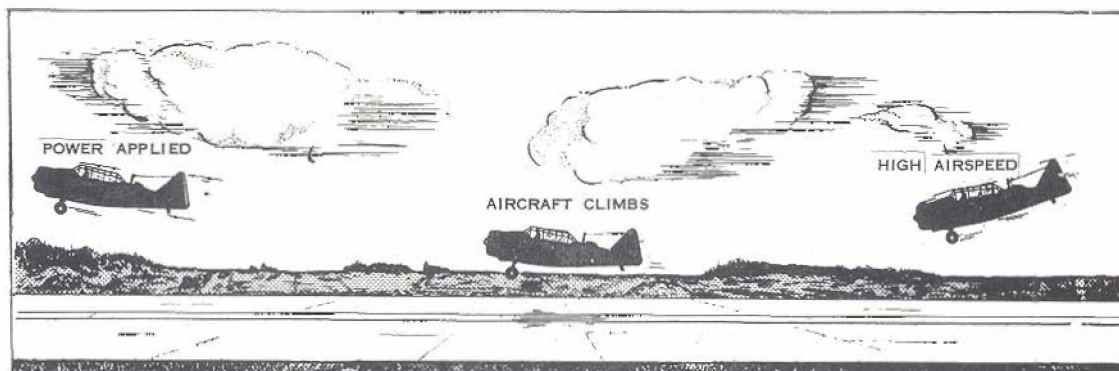

Figure 6: Ballooning
(4) **BALLOONING** - If you round-out too suddenly, or too early, the aircraft may start to climb and will be too high above the runway for a satisfactory landing. (Figure 6 opposite.) At this point you must **BEWARE OF STALLING**. Check the backward movement of the control column and allow the aircraft to start sinking towards the ground. If the speed is low, or the aircraft is high, open the throttle to supply enough power to complete a proper round-out. You must remember to close the throttle again just before touch down.